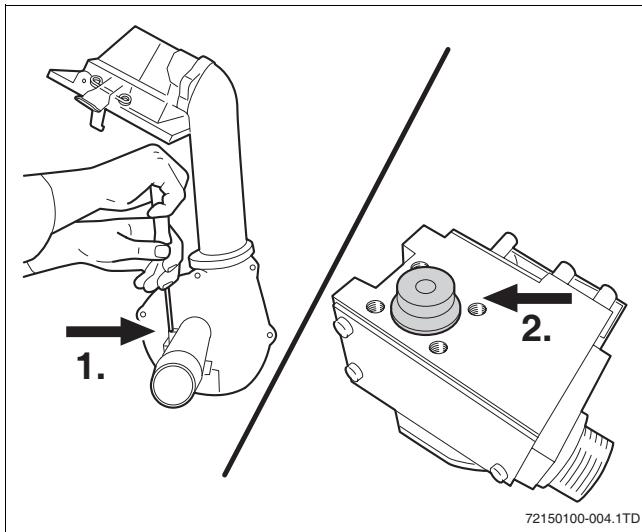

Fig. 4
- Loosen the 3 Phillips screws (→ fig. 4, [1]) and remove the gas valve from the fan unit.
- Remove the gas orifice (→ fig. 4, [2]).